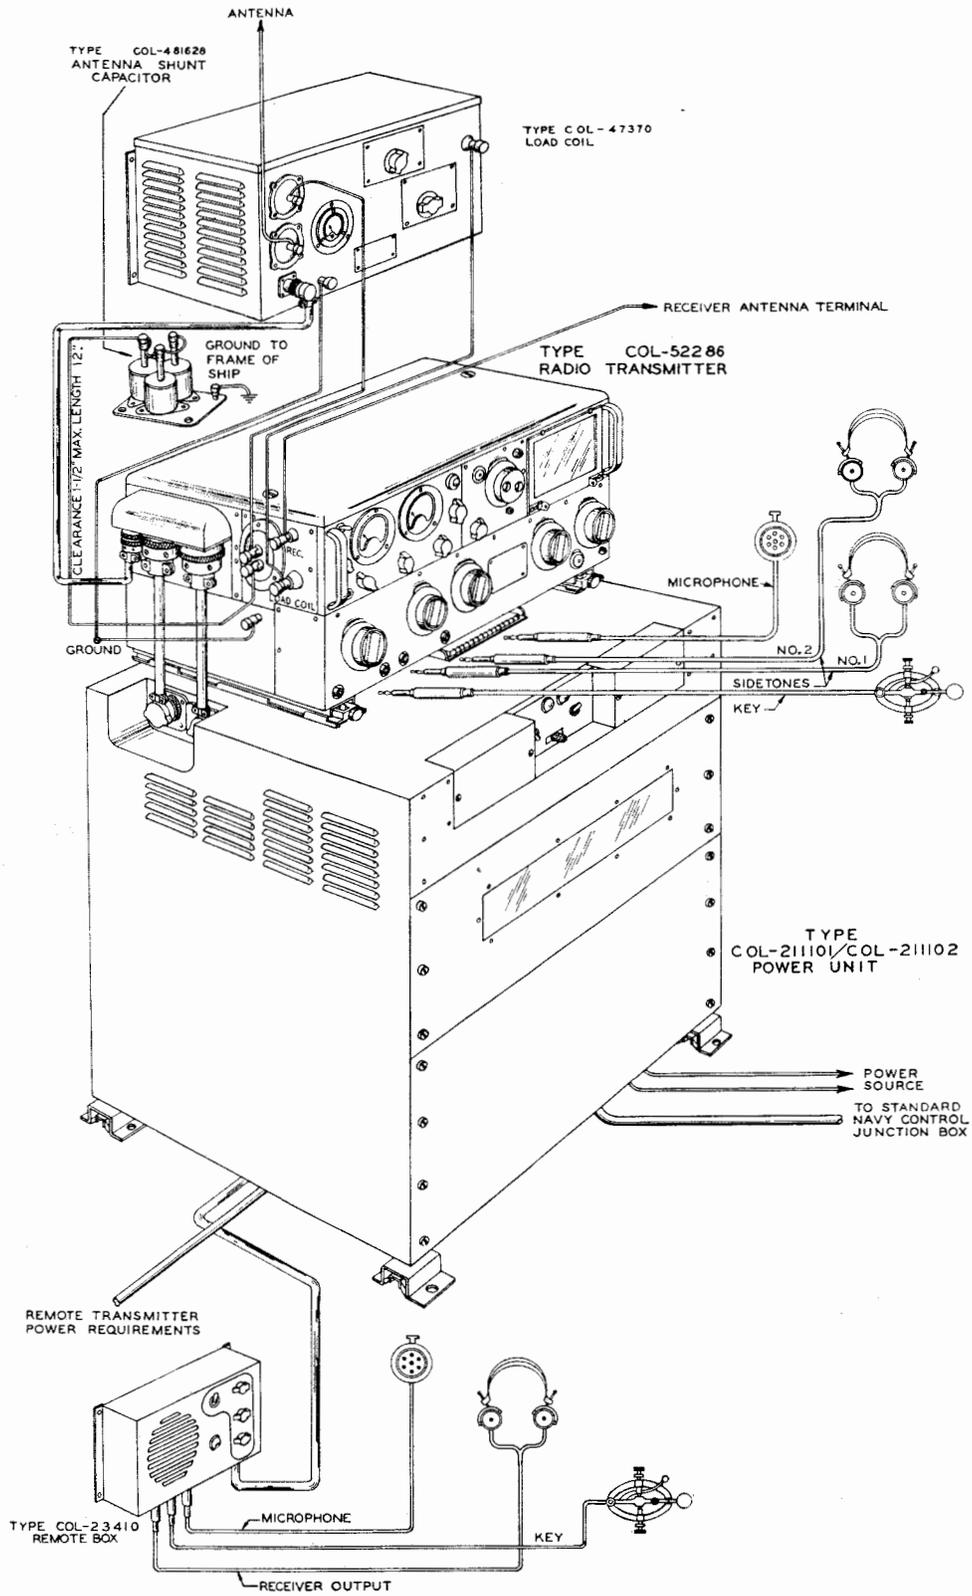
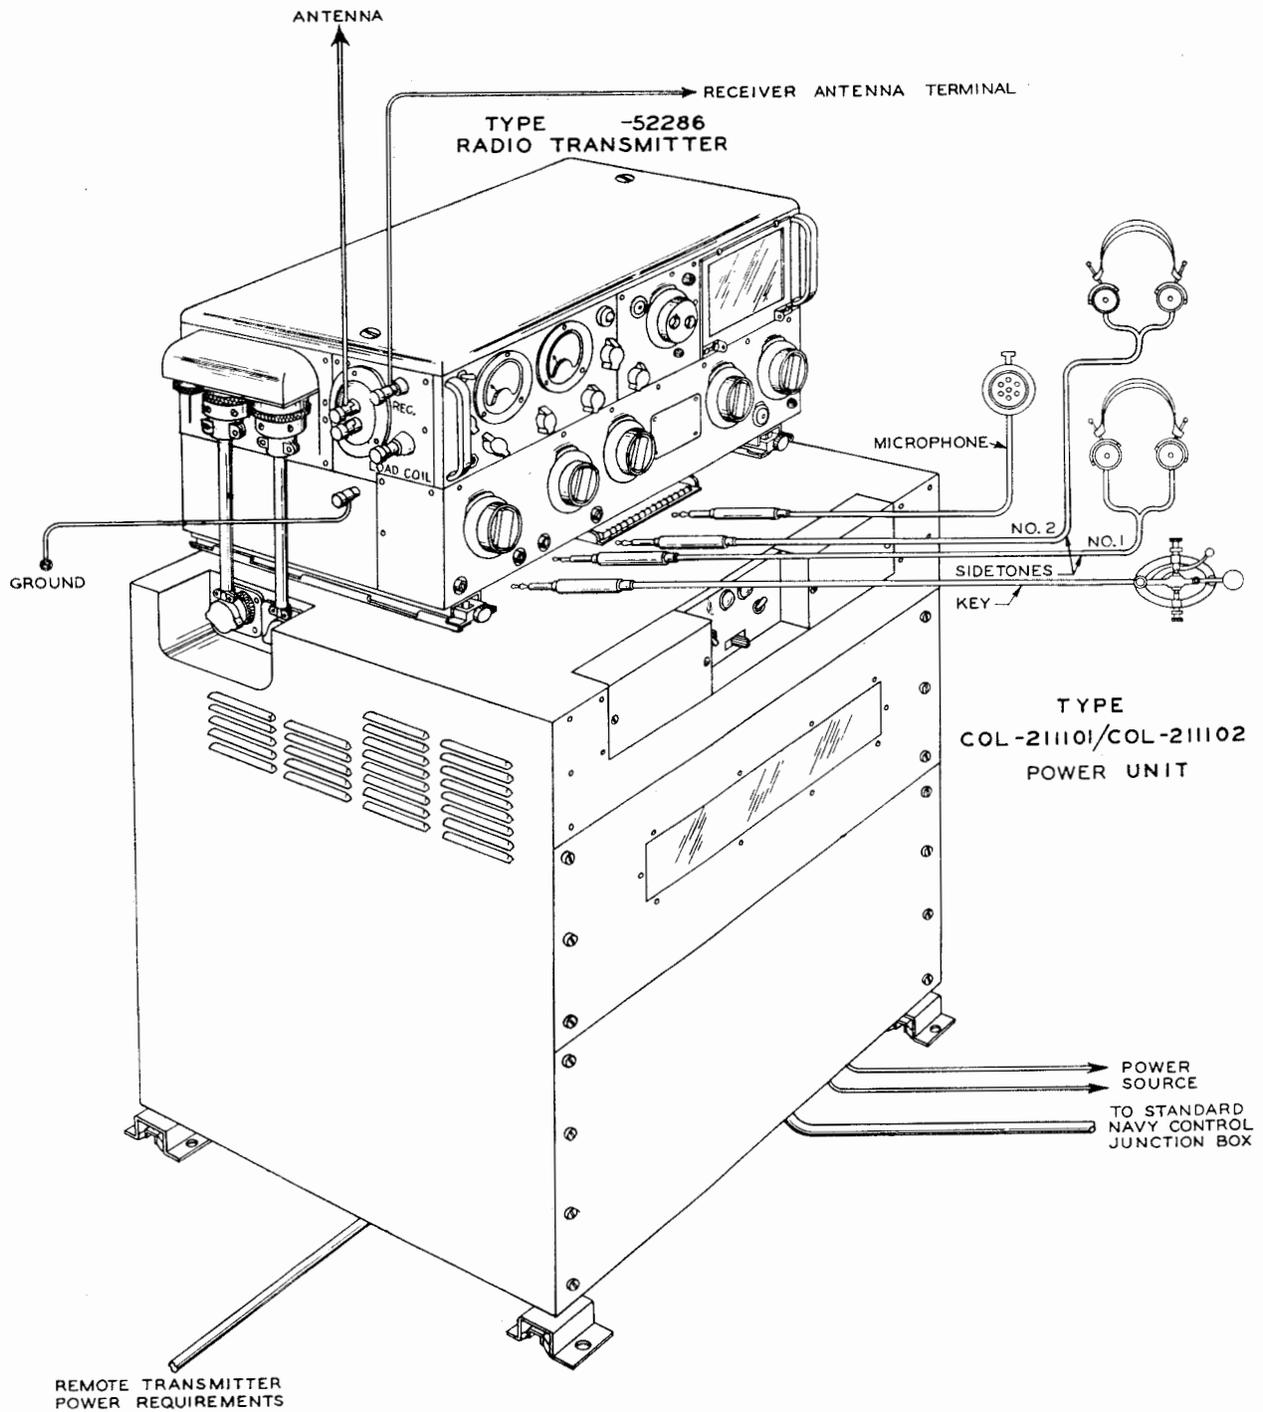

Fig. 27 Complete TCZ Installation Diagram
Fig. 28 Simplified TCZ Installation Diagram
3.2.1. Figure 27 shows a complete TCZ installation with all the accessories necessary for transmission on any frequency within
After all units have been mounted, the installation may be completed by making the power, inter-unit and antenna connections. Refer to the installation diagrams, Figure 27 and Figure 28.